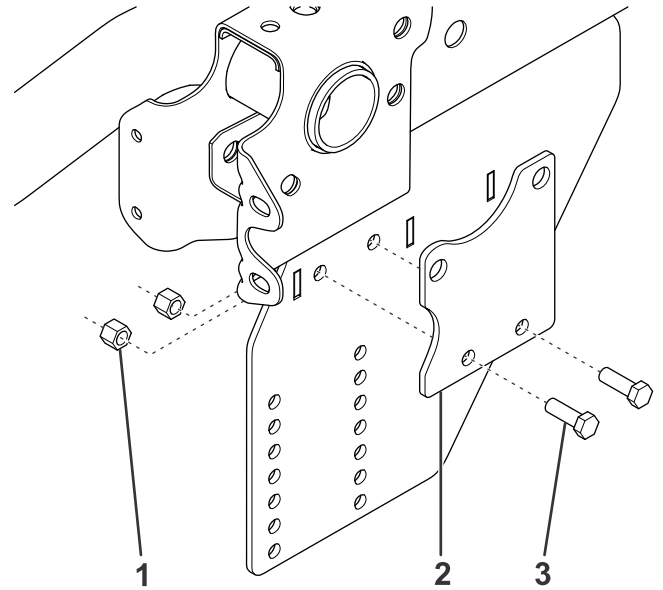

**Figure 3**
4. Loosely attach the sideplates to the frame using 4 bolts (5/8 inch), a straight spacer, an angled spacer, 4 split lockwashers, and 4 nuts (5/8 inch) as shown in Figure 3.